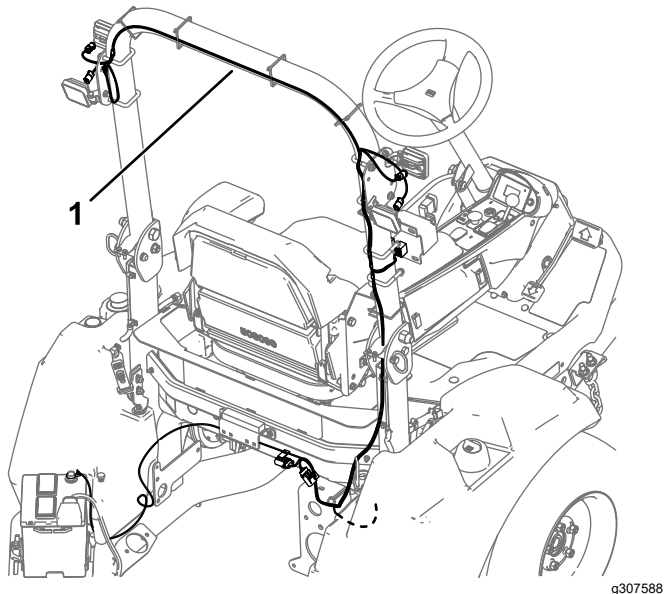

Figure 5
1. Route the work light wire harness and loosely secure it to the ROPS with long cable ties as shown in Figure 5.